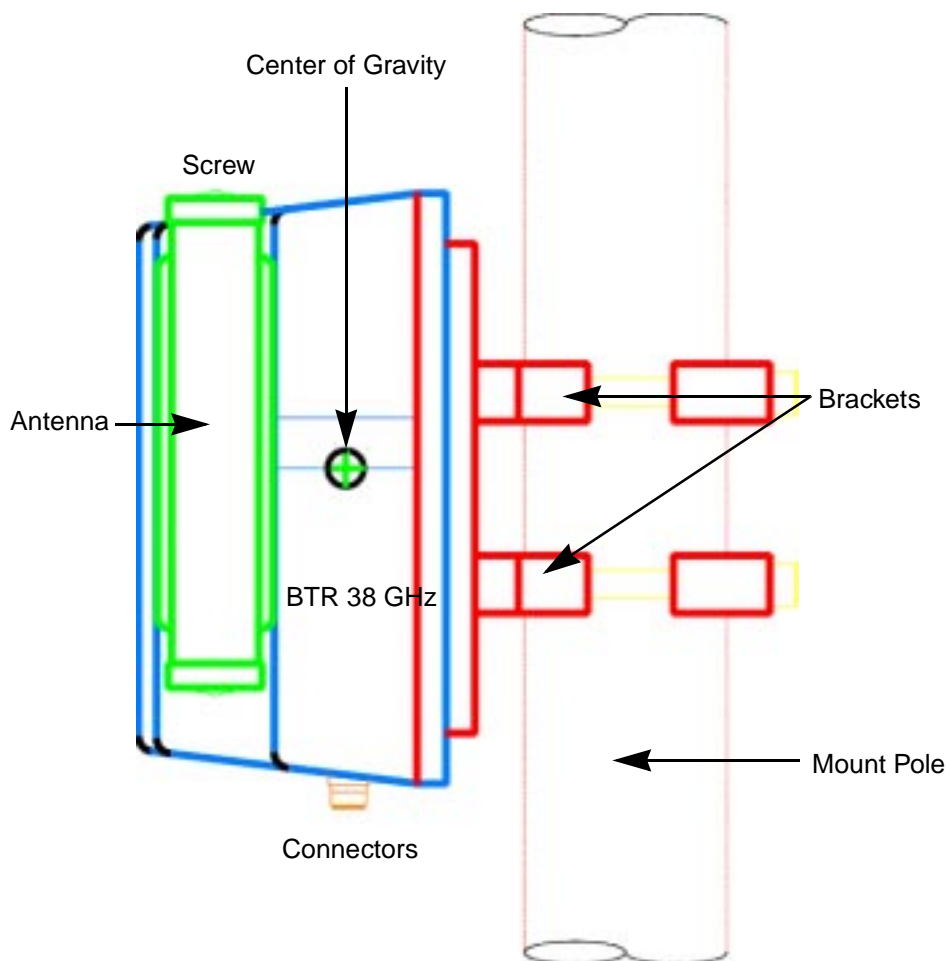

Figure 1-13
12. The BTR 38 GHz has a vertical range of motion of +7° over and -23° under the horizon, as shown in Figures 1-13 and 1-14.